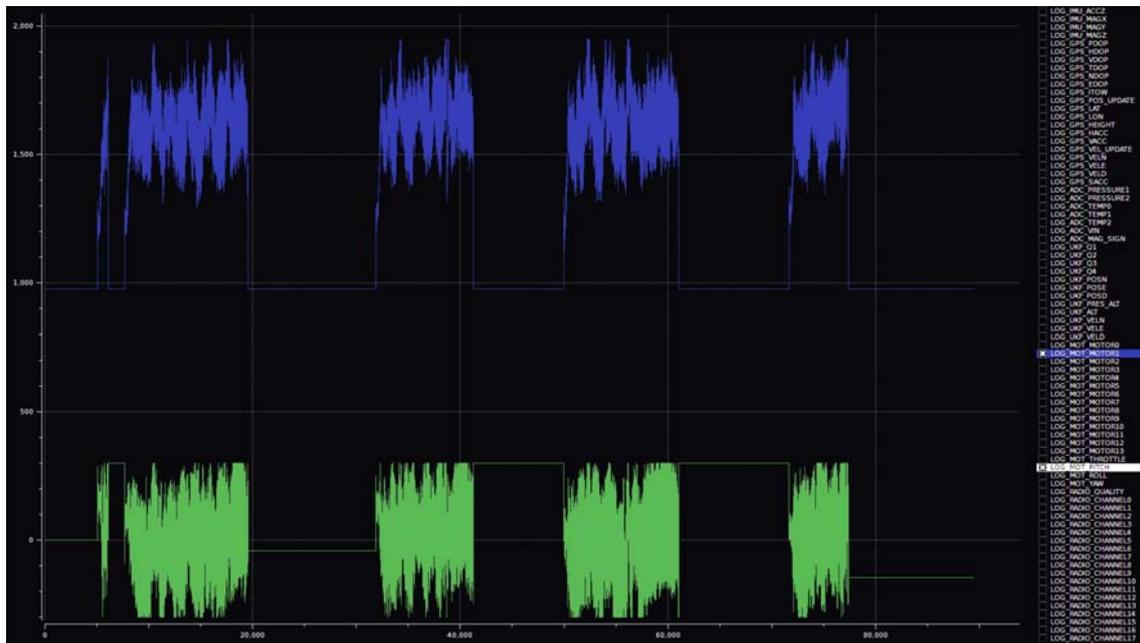

Figure 2
In figure 2 (corresponding to same flight forcing many divergences) we can see that MOT_PITCH reach the max limit (300) many times. After reaching the limit there are no more control available.